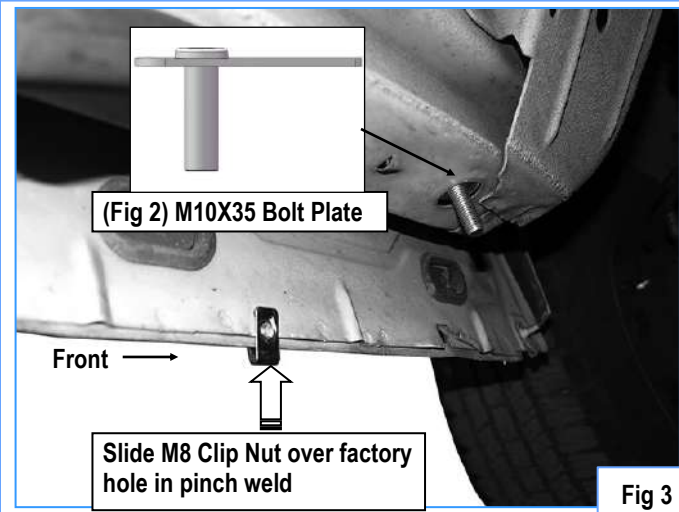

Fig 3
Starting installation from the driver side front of the vehicle. Locate and remove the rubber plug near the front tire opening, (Fig 1). Select (1) M10X35 Bolt Plate, (Fig 2). Insert the Bolt Plate into and across the opening, (Fig 3).
Line up the mounting tab on the Bracket with the factory hole in the pinch weld. Slide (1) M8 Clip Nut over the hole in the pinch weld with the nut toward the outside of the vehicle, (**Fig 3**).